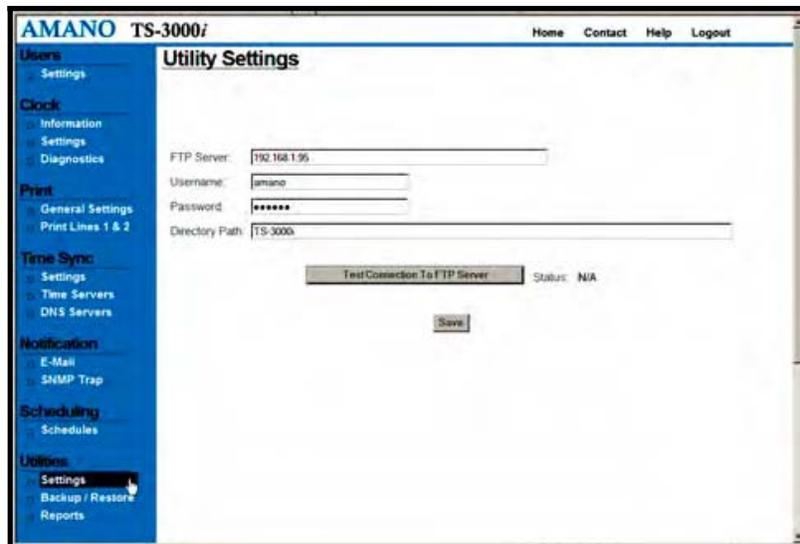

Figure 4-22: Utility Settings (FTP Server)
- Step 1.** Click on the **Settings** link under Utilities and the **Utility Settings** screen for FTP will appear (see *Figure 4-22*).
Step 4. Click on the  button to perform the Backup and the status will appear once the operation has been completed. The transaction file will be stored at the same location (path) previously entered for the FTP Server (see *Figure 4-22*). The configuration file will also be stored in the same location but in a binary format with a filename which correlates to the clock and ending in “_ATVSConfig.bin”.